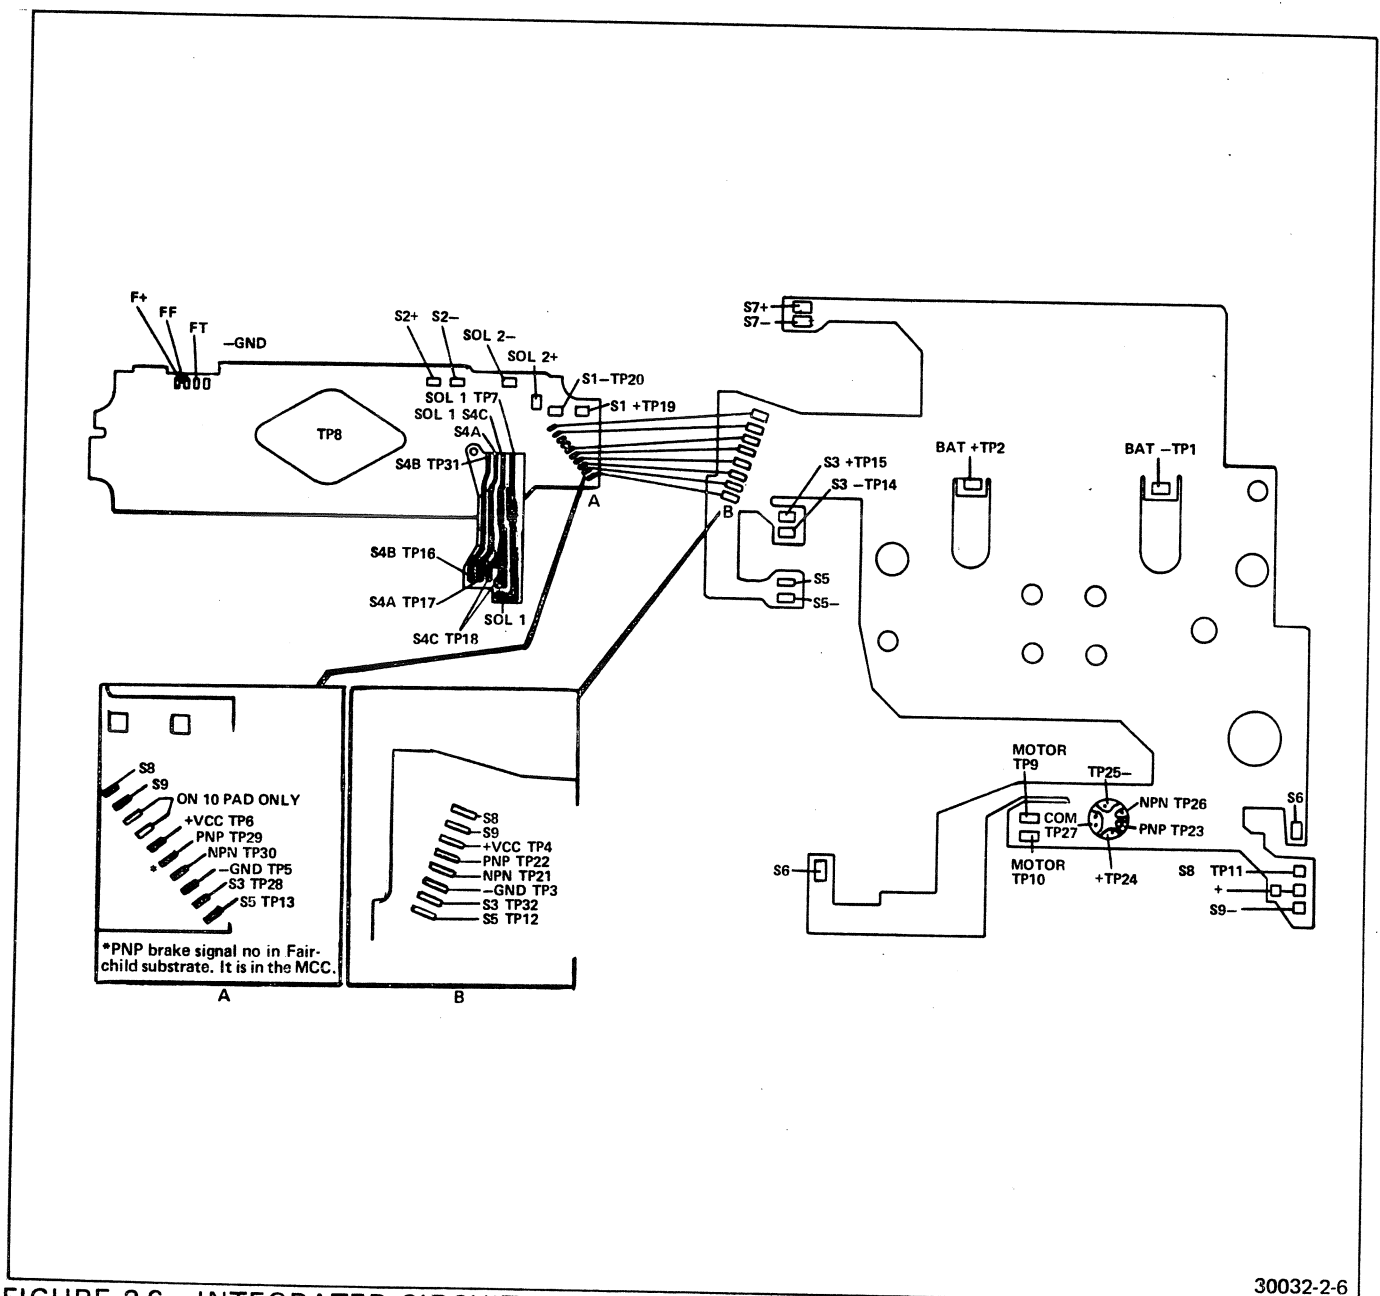

FIGURE 2-6 INTEGRATED CIRCUIT TEST POINTS
2. Integrated Circuit Test Points (Figure 2-6)